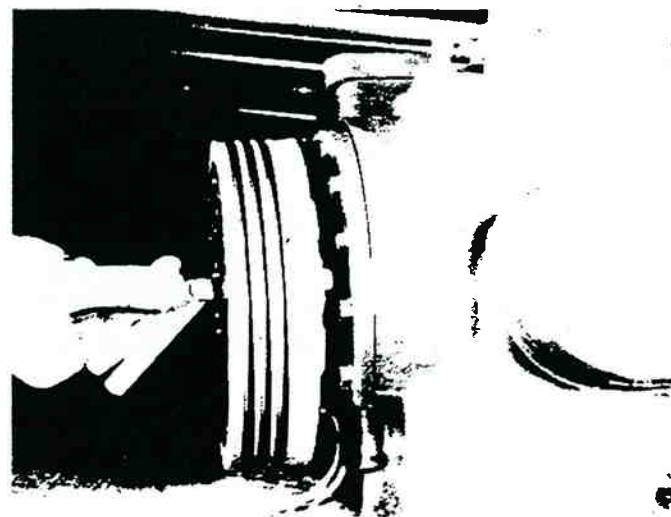

Figure 16-49: Checking Coil - Rotor Clearance
16. Insert a .020" (.508 mm) feeler gauge between the O.D. of the coil and the coil cavity of the rotor. See figure 16-49. Holding the feeler in position, turn the rotor one revolution to check for proper coil-rotor clearance. If rotor turns freely, without binding, continue installation.